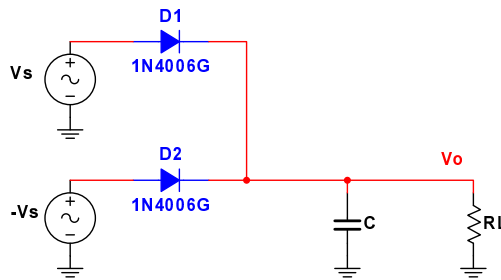

Figure 5: Power supply circuit
Design the power supply in Fig. 5 to have 3V output voltage (V_o) with a maximum load current of 3mA and 10% maximum ripple, where V_s is a 250-Hz sine wave. Determine the peak amplitude of V_s and the value of C .
2. Draw the schematics for the power supply circuit in Fig. 5 with the calculated values, and obtain the **time-domain waveform** for the output voltage using **transient simulation**. Measure the peak output voltage, maximum ripple, and the peak current on the diodes and the load resistor.
2. Build the power supply circuit in Fig. 5 with the simulated component values, and obtain the **time-domain waveform** for the output voltage using the **scope**. Measure the peak output voltage and the maximum ripple.
4. For the DC power supply in Fig. 5: